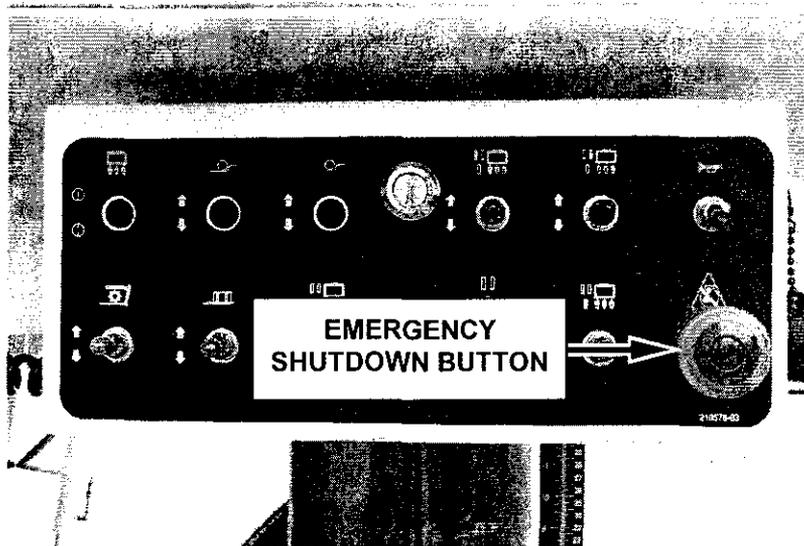

FIGURE 67
8. Be sure all of the emergency shut down buttons have been disengaged (figure 67).